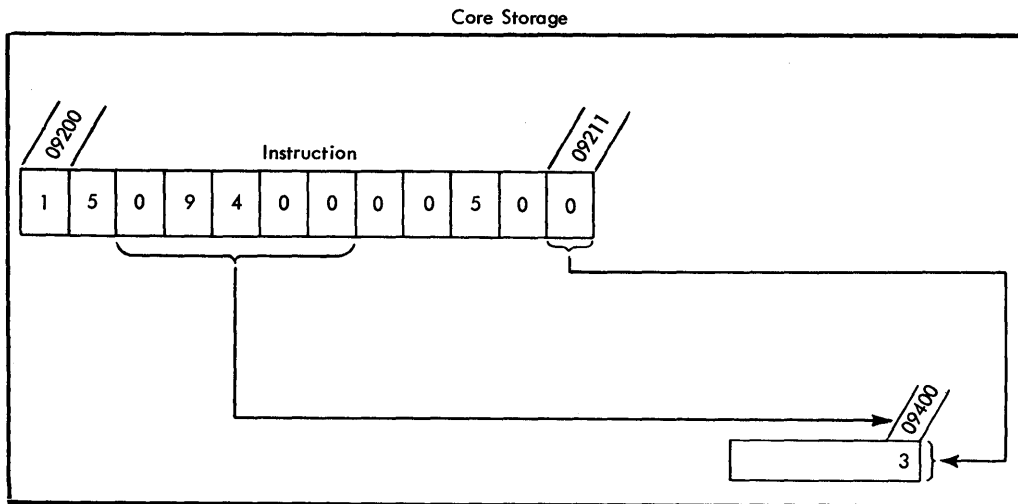

Figure 33. Transmit Digit Immediate - Data Flow
In Figure 33, if the Transmit Digit Immediate instruction (15 09400 00500) is at 09200, the digit (0) at 09211 is transmitted to the core storage location specified by the P address (09400). The 3 at 09400 is replaced by the 0, which also remains in 09211.